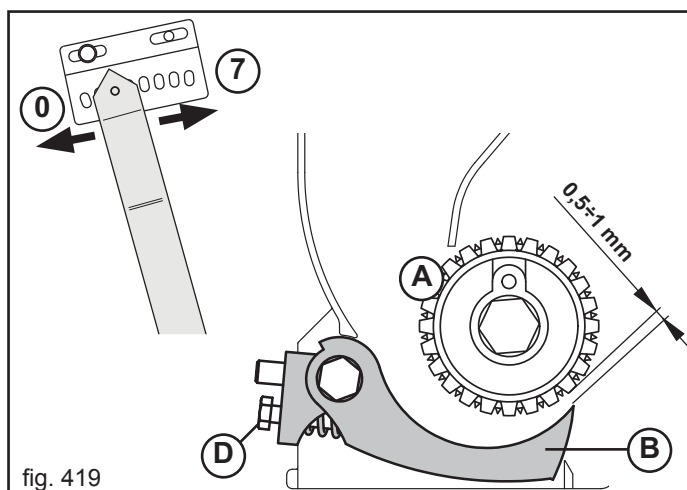

fig. 419
The bottom plate adjustment lever (Fig. 419) works on a scale that is graduated from «0» to «7» positions. This lever must be positioned according to the number given in the distribution table for the type of fertilizer used.
When the bottom plate (B, Fig. 419) are correctly positioned they ensure smooth and steady distribution of the fertilizer.
For best distributing results, periodically check the position of the feeler pins (B): the lever (Fig. 419) in **position "0"**, adjust the distance between the feeler and the distributor roller (A) by means of the nut (D) to $0,5 \div 1$ mm (Fig. 419).
- Bottom gate position (Fig. 419).